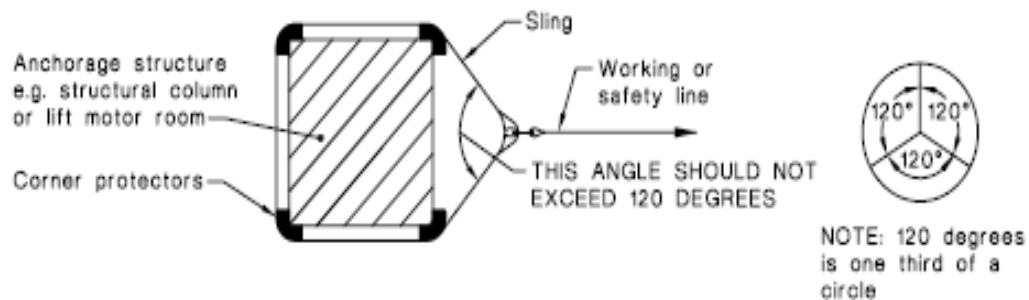

Figure 7 Example of correct angles between legs and provision of protection
- the angle between the sling legs does not exceed 120° , as illustrated in Figure 7.
Rigging a sling with a greater angle between the legs than shown in Figure 7 may result in the safe working load of the sling being exceeded.